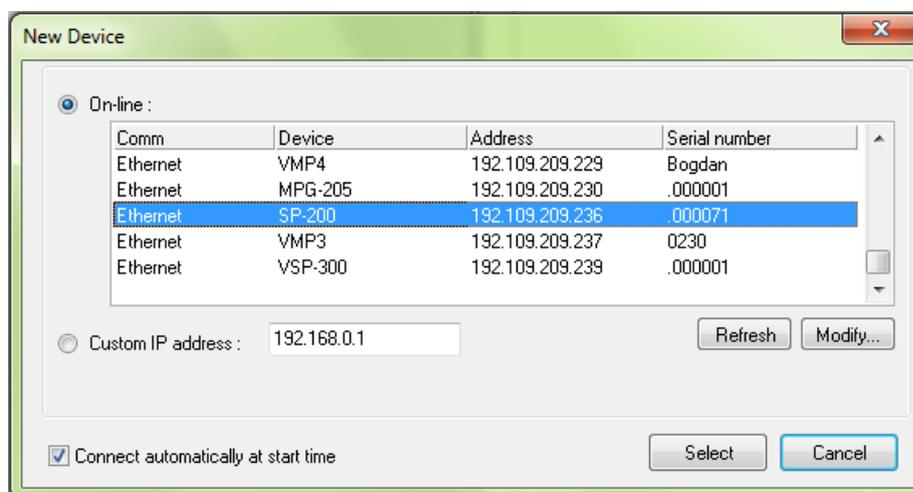

Fig. 30: “New Device” window to select and add an instrument to the current devices.
- 3) The window shown in Fig. 30 appears. Click on “**Refresh**” to see the instruments present on your network.